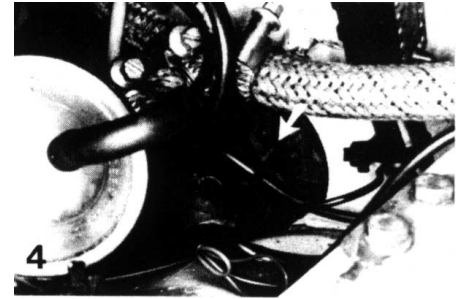

Figure 4
11. Remove cover from female part of wiring plug. Install solder terminal of wiring (800mm long, 2.5mm², black / yellow) in position 11 of the wiring plug. Reinstall cover of wiring plug. Route wiring through additional hole of rubber grommet in partition wall into vehicle inside CEB area (Figure 4). Open up hole in grommet by pulling off rubber nipple. Pull wiring from body well. Install and solder connector (from kit). Part Number 999 652 475 22.